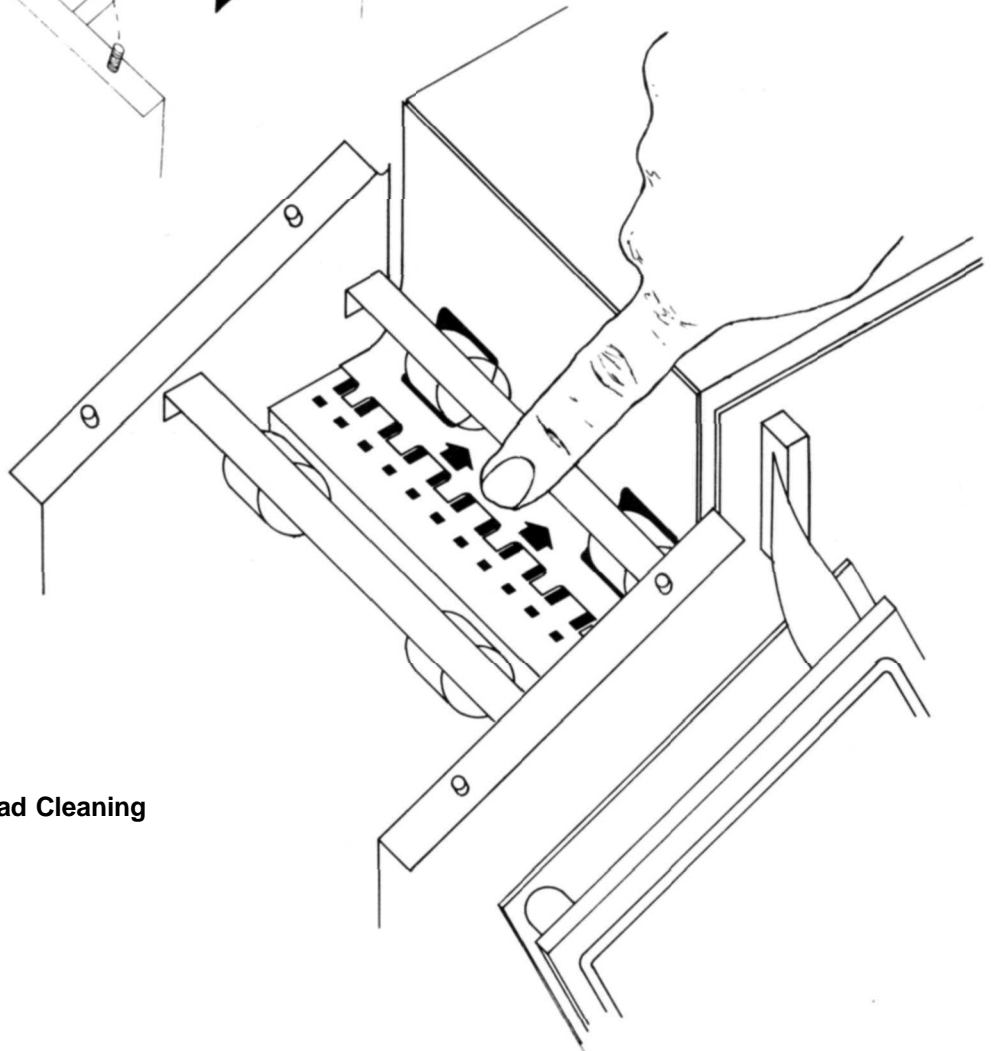

Figure 16. Read Head Cleaning
5. Moisten a clean lint-free cloth with cleaner and clean the top front area of the read head as shown in Figure 16.